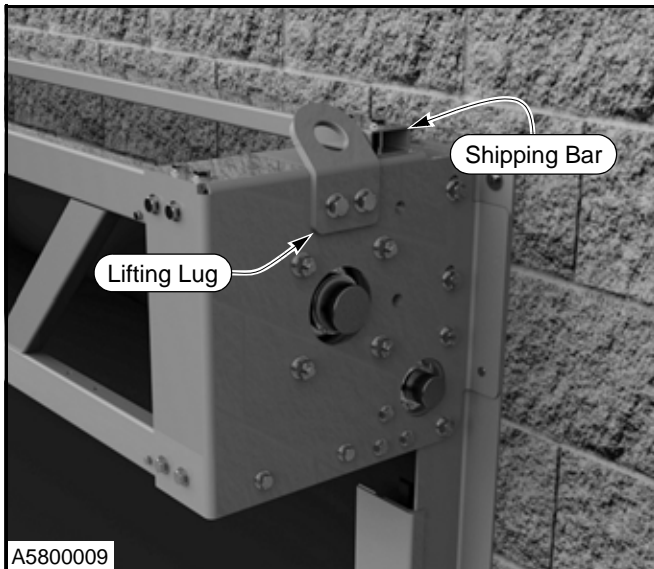

Figure 35
1. Remove and discard the shipping bar and both lifting lugs from the head assembly if this hasn't already been done. Save the hardware from the shipping bar. (See Figure 35.)